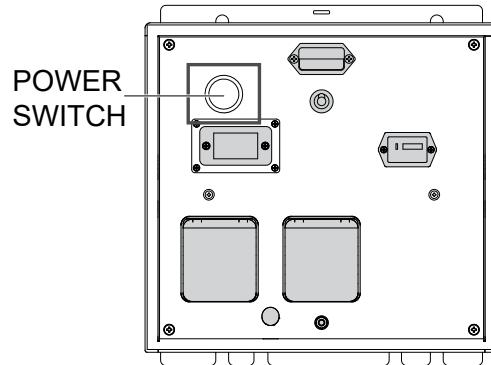

Figure 25. Power Switch OFF
2. Press and hold the power switch for three seconds to turn off the battery (Figure 25).